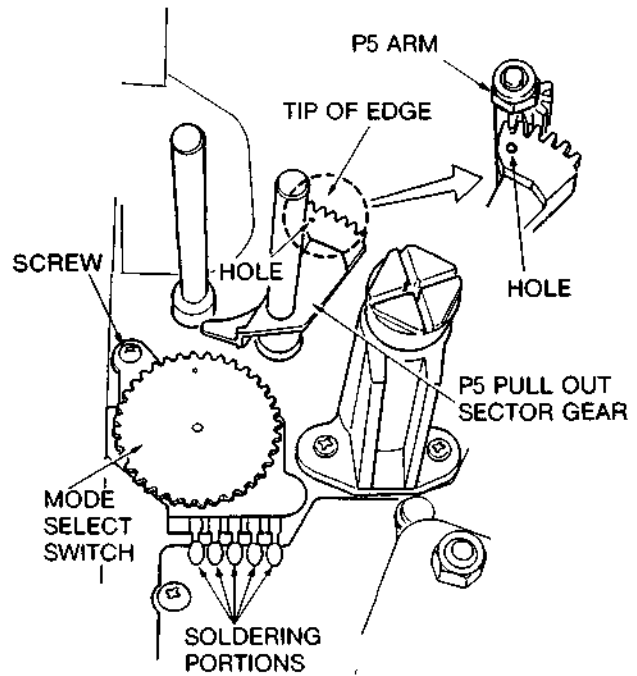

Fig.4-11
- Install mode select switch pos. no. 55(1) and tighten the screw, then solder the 5 solder portions.
- Install the P5 pull out sector gear so that the hole of the P5 pull out sector gear aligns with the cog of edge at P5 gear as shown in Fig. 4-11.